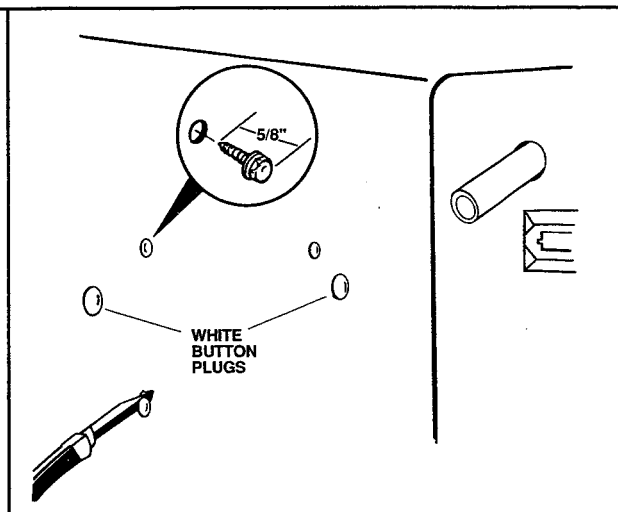

Figure 14
c. Cover the tip of a knife blade with masking tape to protect the interior surface. Carefully pry out and discard the three (3) white plastic buttons from the left side of the freezer wall. See Figure 14.